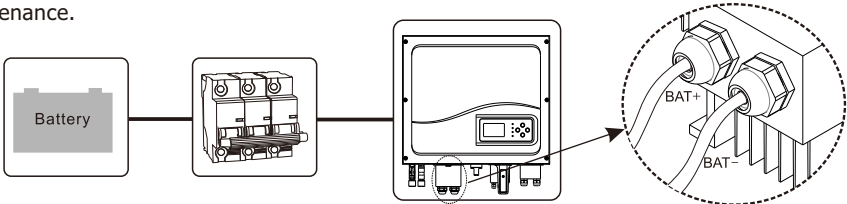

Figure 5-25
- (1) Disconnect the breaker between inverter and battery.
- (2) Check the polarity of the battery and the inverter.
- (3) Compress the terminal head by professional tool.
- (4) Screw the wire cable to the inverter's battery input terminal.
- (5) If the inverter connects to a lead-acid type battery, you must connect BTS to the inverter, the CN8 BTS connection terminal in the COM connection port. (Figure 5-25)